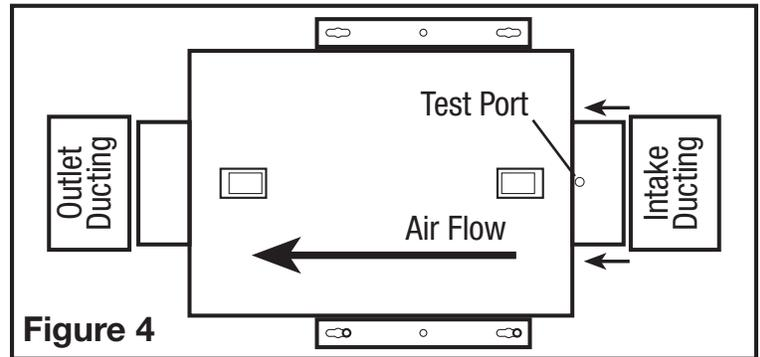

Figure 4
1. Connect the ducting to the fan's duct collar (Figure 4). Seal ducting to housing with appropriately rated tape. Use screws or suitable clamps to secure in place. Make sure the fresh air intake is connected to a properly installed intake port that is a suitable weather hood with insect screen to protect air intake. It is recommended that low restriction termination fittings be used.